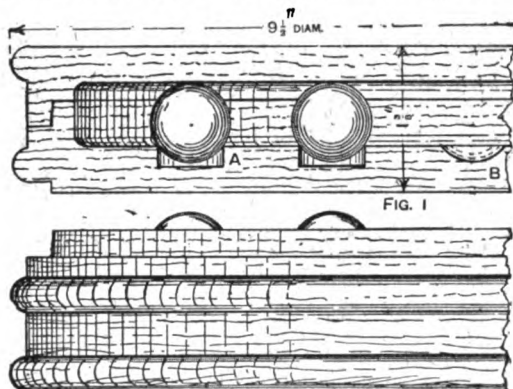
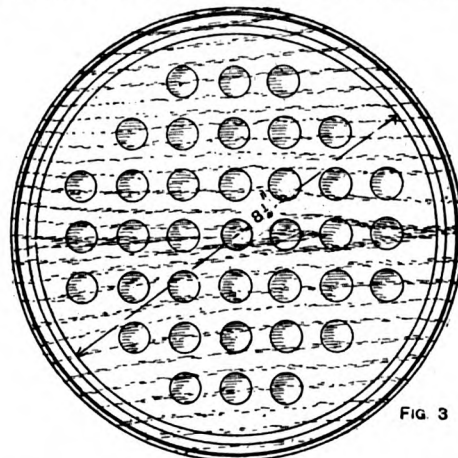

FIG. 2
FIG. 3
7, 8, etc. To proceed with the ordinary plane dial, take a sheet of thin cardboard and cut out of it a circular disc of the same diameter as the ball. The ball must fit into the hole so stiffly that the card may be turned into any position without falling off. Place the card on the ball (the ball being halfway through the hole as in Fig. 2), and make the card C stand exactly as the wall does to which the dial is to be attached. Slide the ball in the hole if necessary till a pair of meridians is vertical, and finally see that the wire still points true North. Now, as shown, mark on the card the points where the meridians on the ball pass through, remove the card, and in the hole replace the piece cut out. Draw lines from the marks round the hole to the centre of the cut-out circle, and these will be the hour-lines of the dial. The hour-line corresponding to the lowest meridian will be that for 12 noon, if the face of the dial is to be vertical. Of course, only about half of the lines will be of use on any dial. The edge of the gnomon must lie in the same direction as did the wire axis of the model globe. If the gnomon be of appreciable thickness the card templet used for drawing the hour-lines must be divided into two along the noon line and the halves separated by the thickness of the gnomon before transferring the lines from the templet to the actual dial. This method of drawing the hour-lines of a sundial is applicable to all positions of the dial except when its face is parallel to the axis of the sphere, as, for example, when the dial is to face due East or West.
**Home-made Acetylene Generator and Lighting Apparatus.**—The illustrations show an acetylene generating and lighting apparatus. The main part is of zinc, the dimensions being indicated in Fig. 1. The carbide holder is an improvised tin canister with the bottom removed and a truncated conical portion soldered on in its place (see Fig. 2). The soldering line A (Fig. 2) is kept lower than the line of connection with the top of
work smoothly, is that its top-heaviness will render it liable to be knocked over. This must be provided against by attaching suitable feet with provision for screwing to the floor. When the gas begins to be generated the tap should be turned full on, and the burner tried from time to time with a light. The holes in the burners are very small, and it will take some time for all the air to be cleared out of the tubes. When eventually the gas begins to light, the flame will be yellow and noisy, gradually settling down into a beautifully clear and steady white flame. The burners, placed three or four in series with a suitable reflector (see Fig. 3), give an excellent light for general lantern work and for all ordinary illumination purposes, but are liable to bring considerable disappointment in critical optical work. The apparatus under discussion was specially intended for photomicrograph work, but its actinic effect was infinitely poorer (in comparison with its apparent brilliancy) than that of a good paraffin lamp. It has been stated that for cinematograph projections the light could be made to give a 10-ft. picture, but the
**Box Solitaire Board.**—Solitaire is one of the very few games that a person can play alone. A convenient form of board on which to play the game is illustrated herewith, Fig. 1 being a part section of the box closed, and Fig. 2 a part elevation of the box open for play, the cover being off and placed underneath, where it is held in place by the step turned on the bottom of the box. Any hard white wood is suitable for making the board and cover, and should be turned to the sizes given. Then thirty-seven holes are marked out inside the bottom as shown at Fig. 3, and bored  $\frac{1}{8}$  in. smaller than the